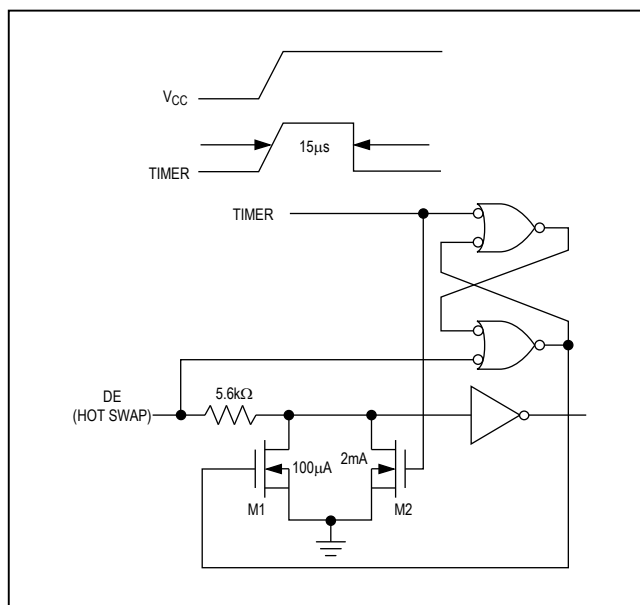

Figure 10. Simplified Structure of the Driver Enable Pin (DE)
At the driver-enable input (DE), there are two nMOS devices, M1 and M2 (Figure 10). When V_{CC} ramps from zero, an internal 15 μs timer turns on M2 and sets the SR latch, which also turns on M1. Transistors M2, a 2mA current sink, and M1, a 100 μA current sink, pull DE to GND through a 5.6k Ω resistor. M2 pulls DE to the disabled state against an external parasitic capacitance up to 100pF that may drive DE high. After 15 μs , the timer deactivates M2 while M1 remains on, holding DE low against three-state leakage currents that may drive DE high. M1 remains on until an external current source overcomes the required input current. At this time, the SR latch resets M1 and turns off. When M1 turns off, DE reverts to a standard, high-impedance CMOS input. Whenever V_{CC} drops below 1V, the input is reset.